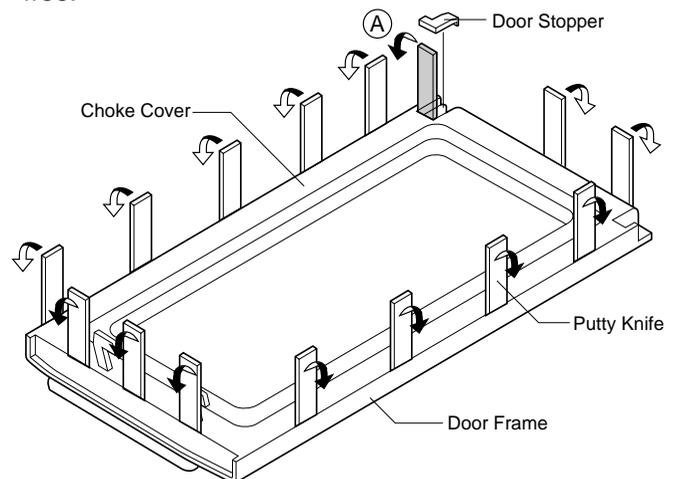

Figure C-3. Door Disassembly
5. Insert a putty knife (thickness of about 0.5mm) into the gap *A* between the door stopper and the choke cover as shown in Figure C-3 to free engaging parts.
7. Insert a putty knife (thickness of about 0.5mm) into the gap A between the choke cover and door stopper and between the choke cover and the door frame as shown Figure C-3 to free engaging parts.
8. Pry the choke cover by inserting a putty knife in order shown in Figure C-3.